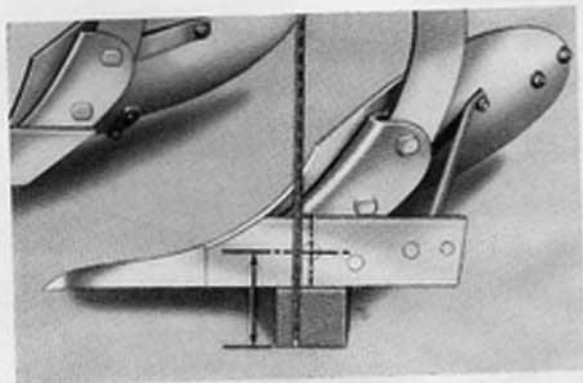

Fig. 14C
4. Measure the distance from the centerline of the lower beam bolt hole to the level surface, \*Fig. 14c, subtract  $3\frac{1}{16}$ " and for reference purposes call this dimension "A."